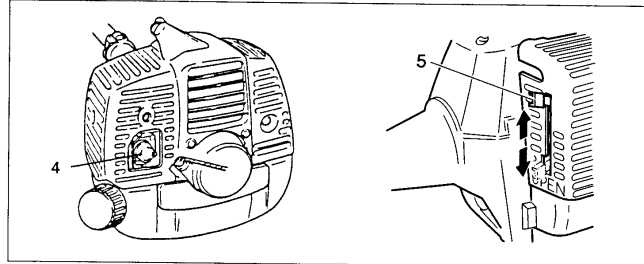

Fig. 2-6
\*Push priming bulb (4) several times so that fuel flows through the bulb or return pipe. (if so equipped) (Fig. 2-6,7)
2. With the safety trigger (2) pressed (if so equipped), pull throttle trigger and push throttle lock (3), then slowly release the throttle trigger first, then the safety trigger. This will lock the throttle in starting position.
3. Set choke lever to CLOSED position (5). (Fig. 2-6,7)